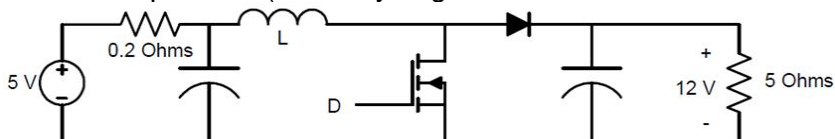

Figure 4.1 Boost converter
8. Figure 4.1 shows a boost (up) converter supplying 12 V to a load of 5Ω from a 5 V source having an internal resistance of 0.2Ω . Determine the duty ratio D at which the converter operates. (You may neglect semiconductor device drops in your calculations.)